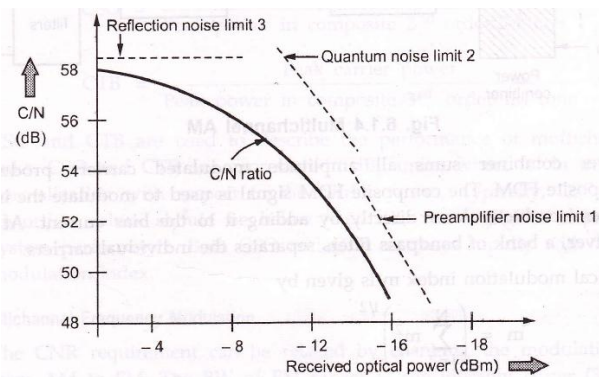

Fig. 6.1.3 C/N ratio as a function of received optical power
- Fig. 6.1.3 shows carriers-to-noise ratio as a function of optical power level at the receiver with limiting factors. For low light levels, thermal noise is limiting factor causes 2 dB roll of in C/N for each 1 dB drop in received power. At intermediate levels, quantum noise is limiting, factor causing 1 dB drop in C/N for every 1 dB decrease in received optical power. At high received power source noise is dominator factor gives a constant C/N.